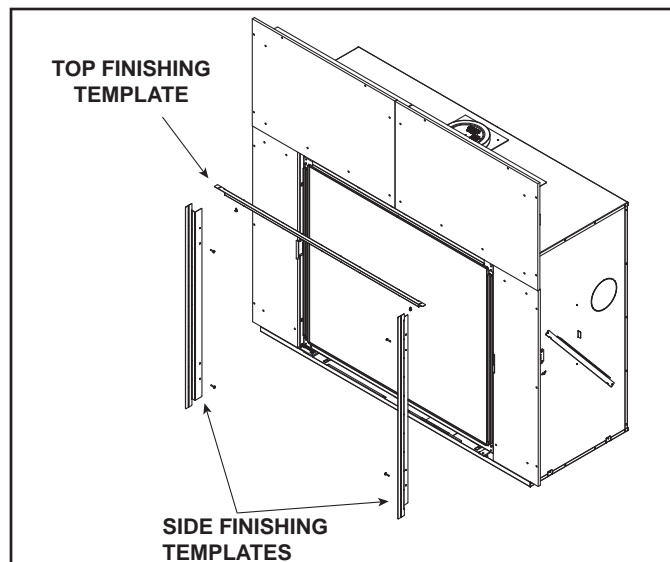

Figure 13.2 Top and Side Finishing Template Locations
3. Locate the four threaded inserts on the inside edge of the fireplace and secure the side templates with the Phillips screws provided. See Figure 13.2.